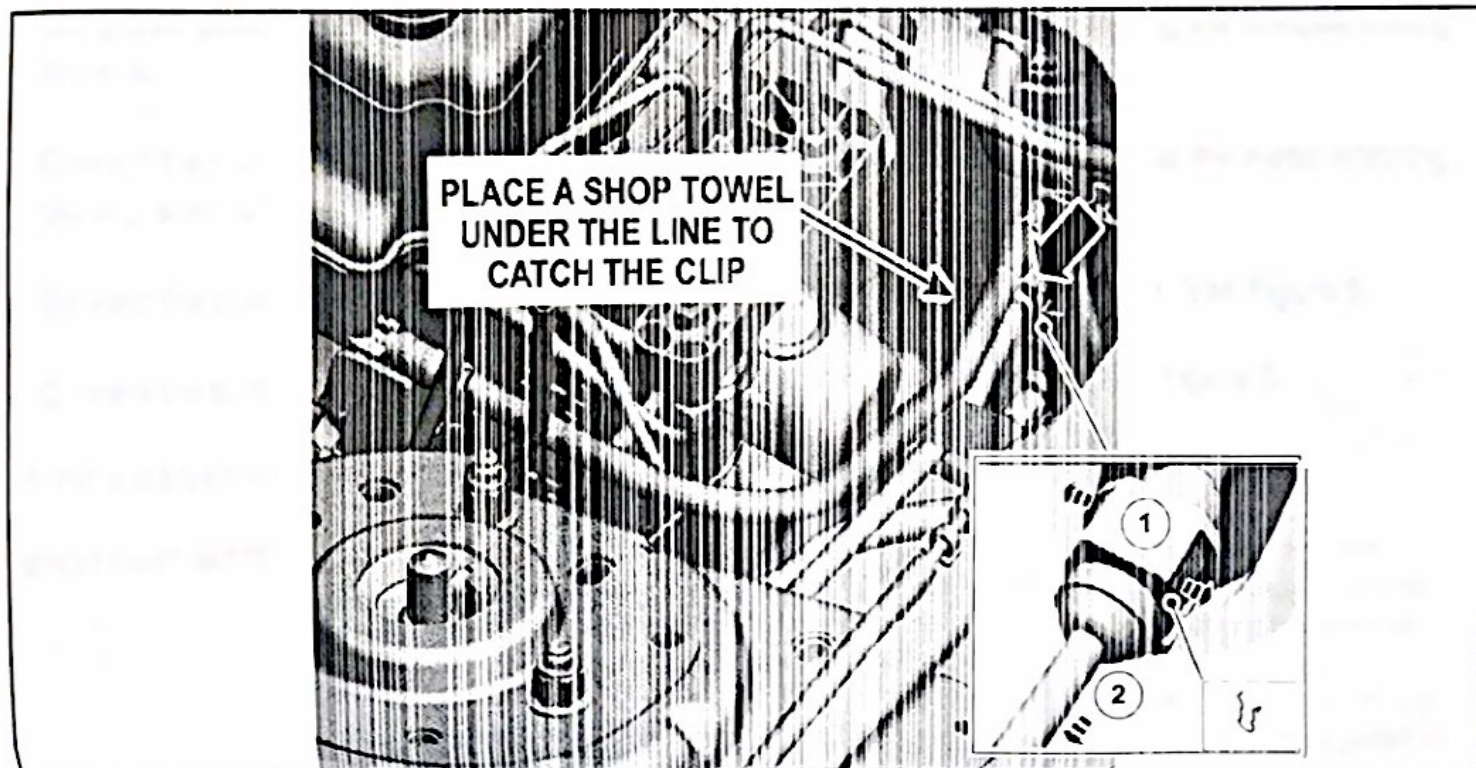

FIGURE 4
3. Remove the metal retainer clip and disconnect the clutch master cylinder tube from the clutch master cylinder. See Figure 4.
7. Connect the clutch master cylinder tube to the clutch master cylinder, ensuring that the metal retaining clip is pushed fully in its locked position. See Figure 4.